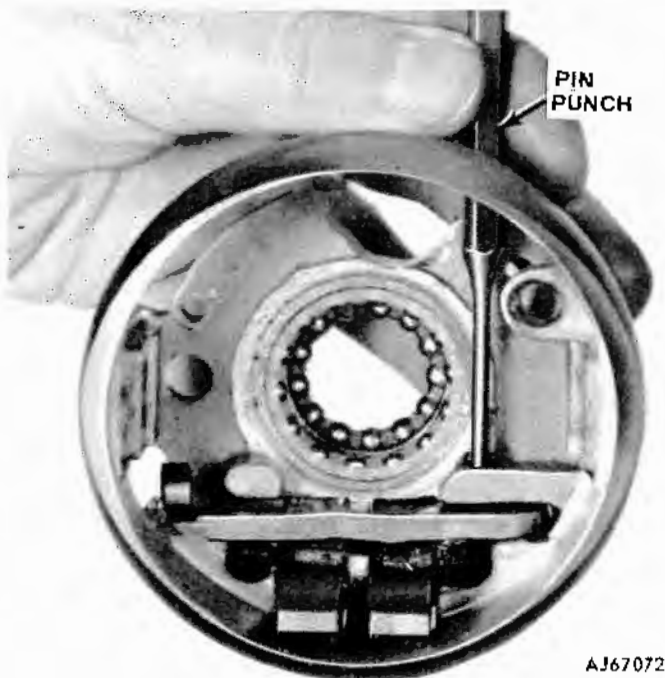

Fig. 11-22 Release Lever Pin Removal
(31) If lock shoes, release lever, or springs are to be serviced, remove release lever pin and lock shoe pin with a punch or Pin Remover and Installer Tool J-22635. Hold lock shoe springs in compression to relieve load on pins (fig. 11-22, -23).